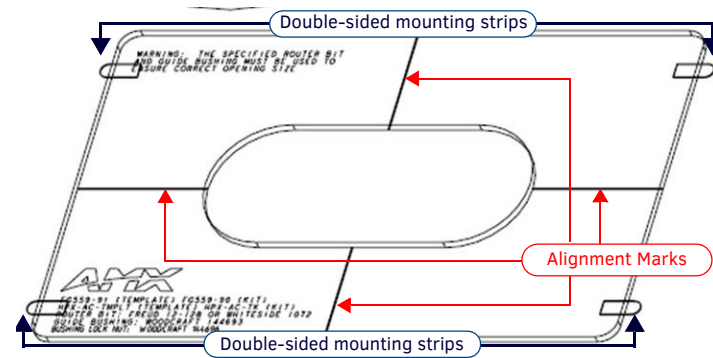

FIG. 3 HPX-AC-T ROUTER TEMPLATE
- Apply mounting strips or other appropriate double sided tape to the bottom surface of the router template, making sure that the rounded edges of the mounting strips protrude slightly beyond the edges of the template (see FIG. 3).
- Use the alignment marks scribed on the template to align the template properly on the mounting surface (FIG. 3).